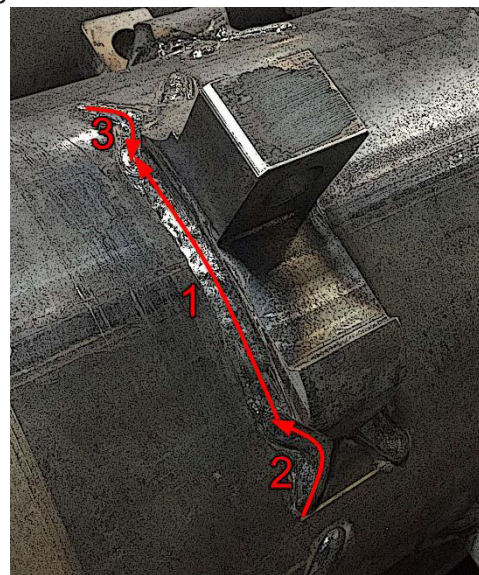

Figure 27
9. Follow the welding pattern illustrated in Figure 27.
NOTE: Overlap weld #2 and #3 over weld #1 in Figure 27.